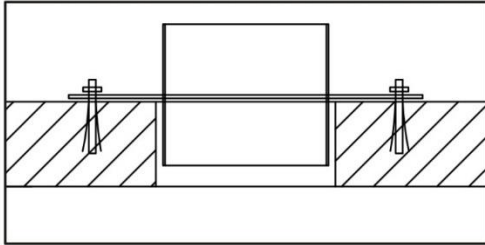

Figure 2
② Confirmed the installation position, Drill 24-28cm diameter holes in the roof to install flanges, the flange is fixed with M12 expansion screw (the screw length is not less than 10cm). According to the actual situation, it can be fixed on the upper or lower part of the roof. As shown in Figures 2 and 3.